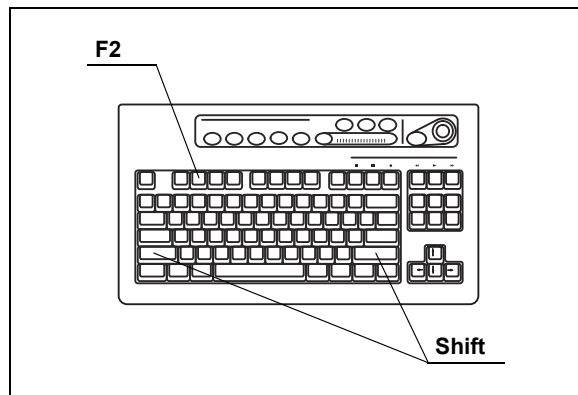
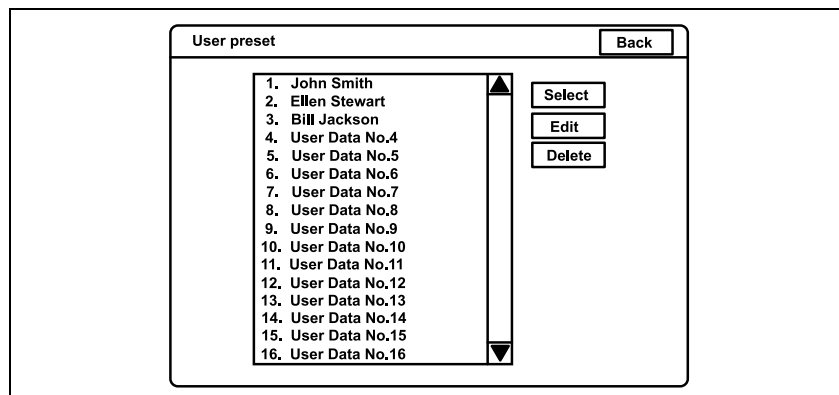

Figure 9.48
Figure 9.49
1. Press the “Shift” and “F2” keys together (see Figure 9.48). The user name list of the user preset menu appears on the monitor (see Figure 9.49).